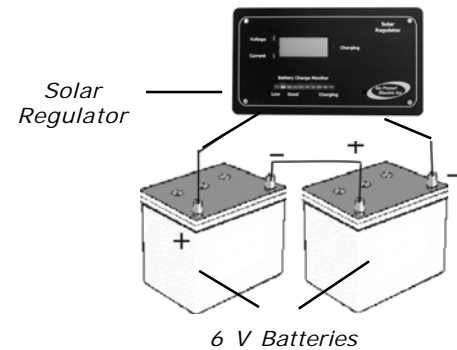

Figure 7
2. 6 volt battery connection. (See Figure 7)